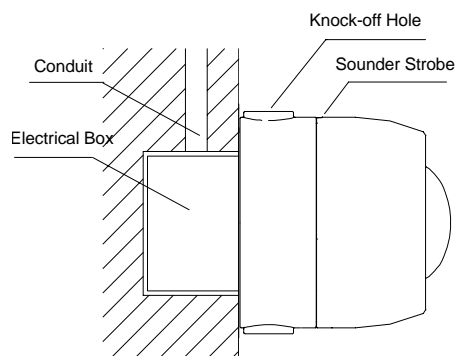
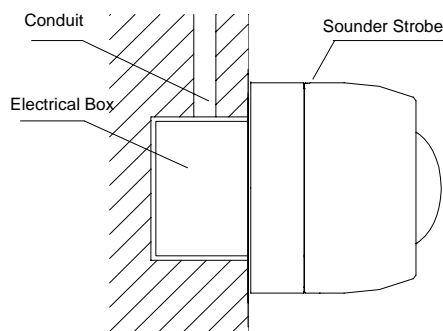
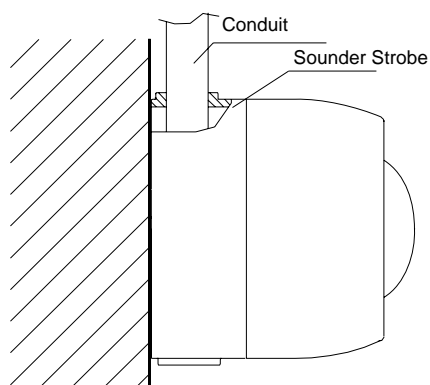

Fig. 3a
Fig. 3b
Fig. 4
- ✧ When the sounder strobe is surface mounted, it should be placed 0.2m from the ceiling for normal space height. When the conduit is embedded, the base can be mounted on the electrical box. When the conduit is surface mounted, the deep base should be adopted. Knock the knock-off hole, then connect the conduit with it. The mounting hole spacing and mounting direction are shown in Fig. 2. Mounting method is shown in Fig. 3a and Fig. 4. When the shallow base is required, the sounder strobe only adopts conduit embedded. Its mounting method is shown in Fig. 3b.